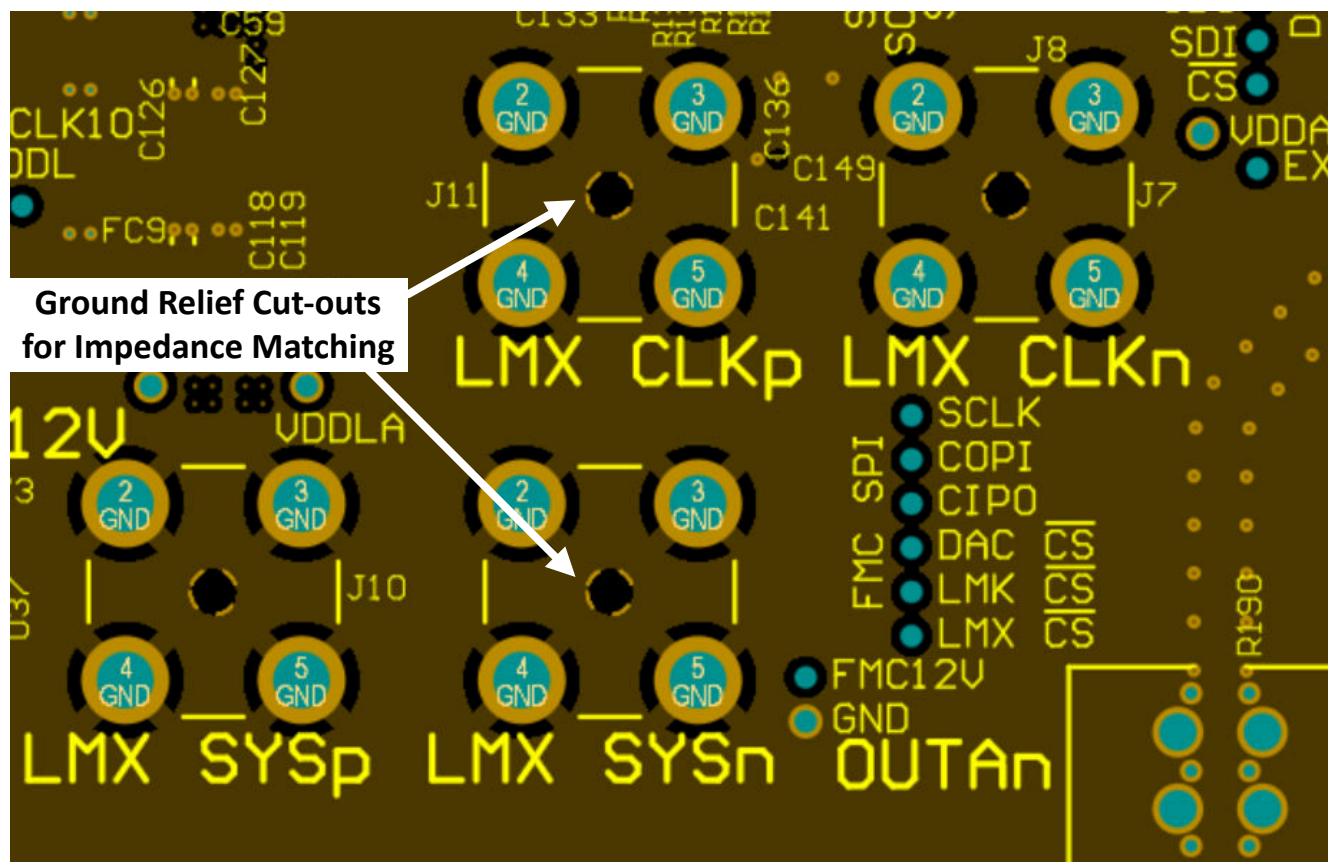

Figure 8-26. Ground Cut-out Below SMA Connector Center Pin
5. Incorporate any ground plane cutouts necessary at component landing pads, ie – SMA connectors, baluns, and so on, to avoid impedance discontinuities at these locations. Cut-outs below these landing pads on one or multiple ground planes to achieve a pad size or stackup height that achieves the needed 50Ω, single-ended impedance. See Figure 8-25 and Figure 8-26 as an examples.